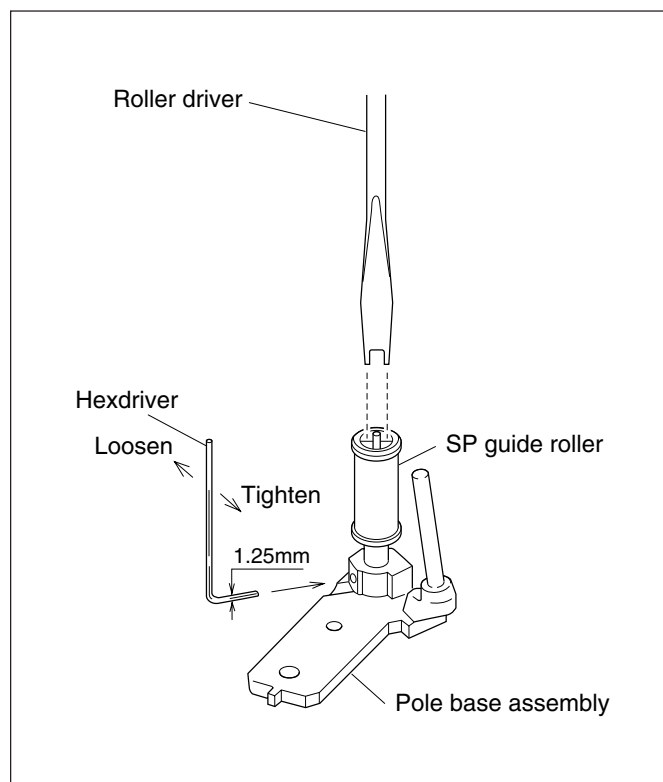

Fig. 2-5-2
- (5) Using the hexagonal wrench (1.25 mm), lightly release the set screw at the bottom of the pole base assembly. (Pay attention not to release too much.) (Fig. 2-5-2)